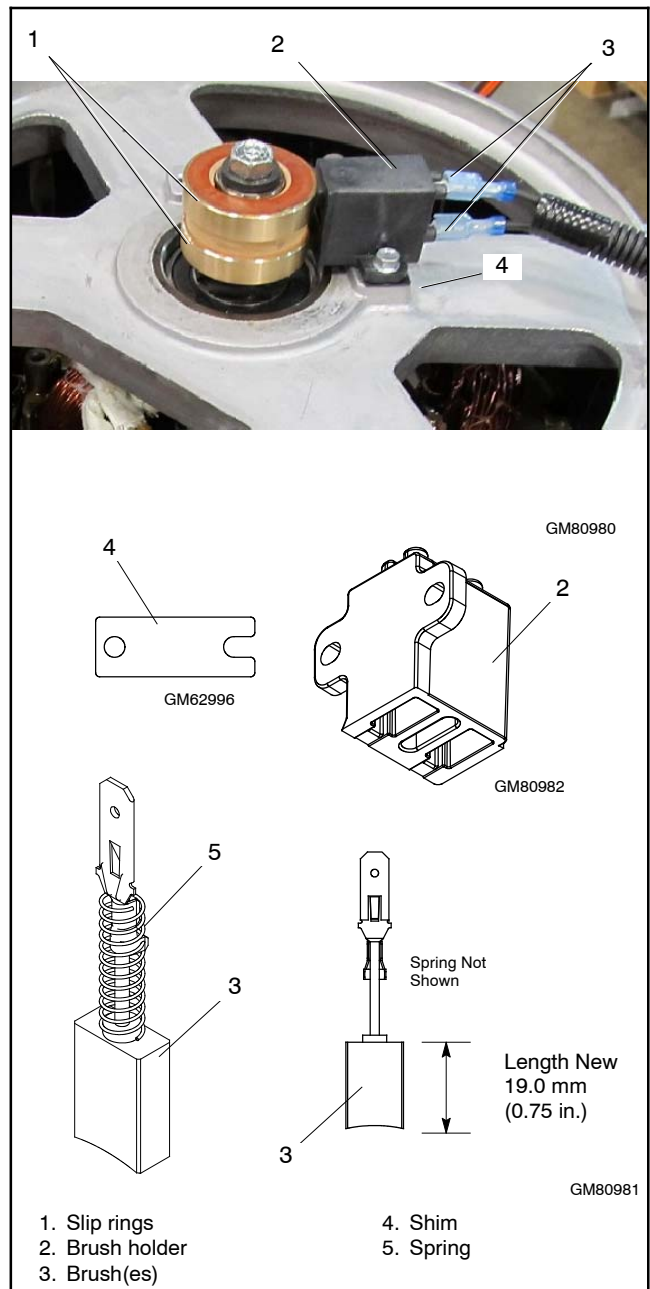

Figure 6-8 Brush Assembly
23. Remove and check the brushes. See Figure 6-8.